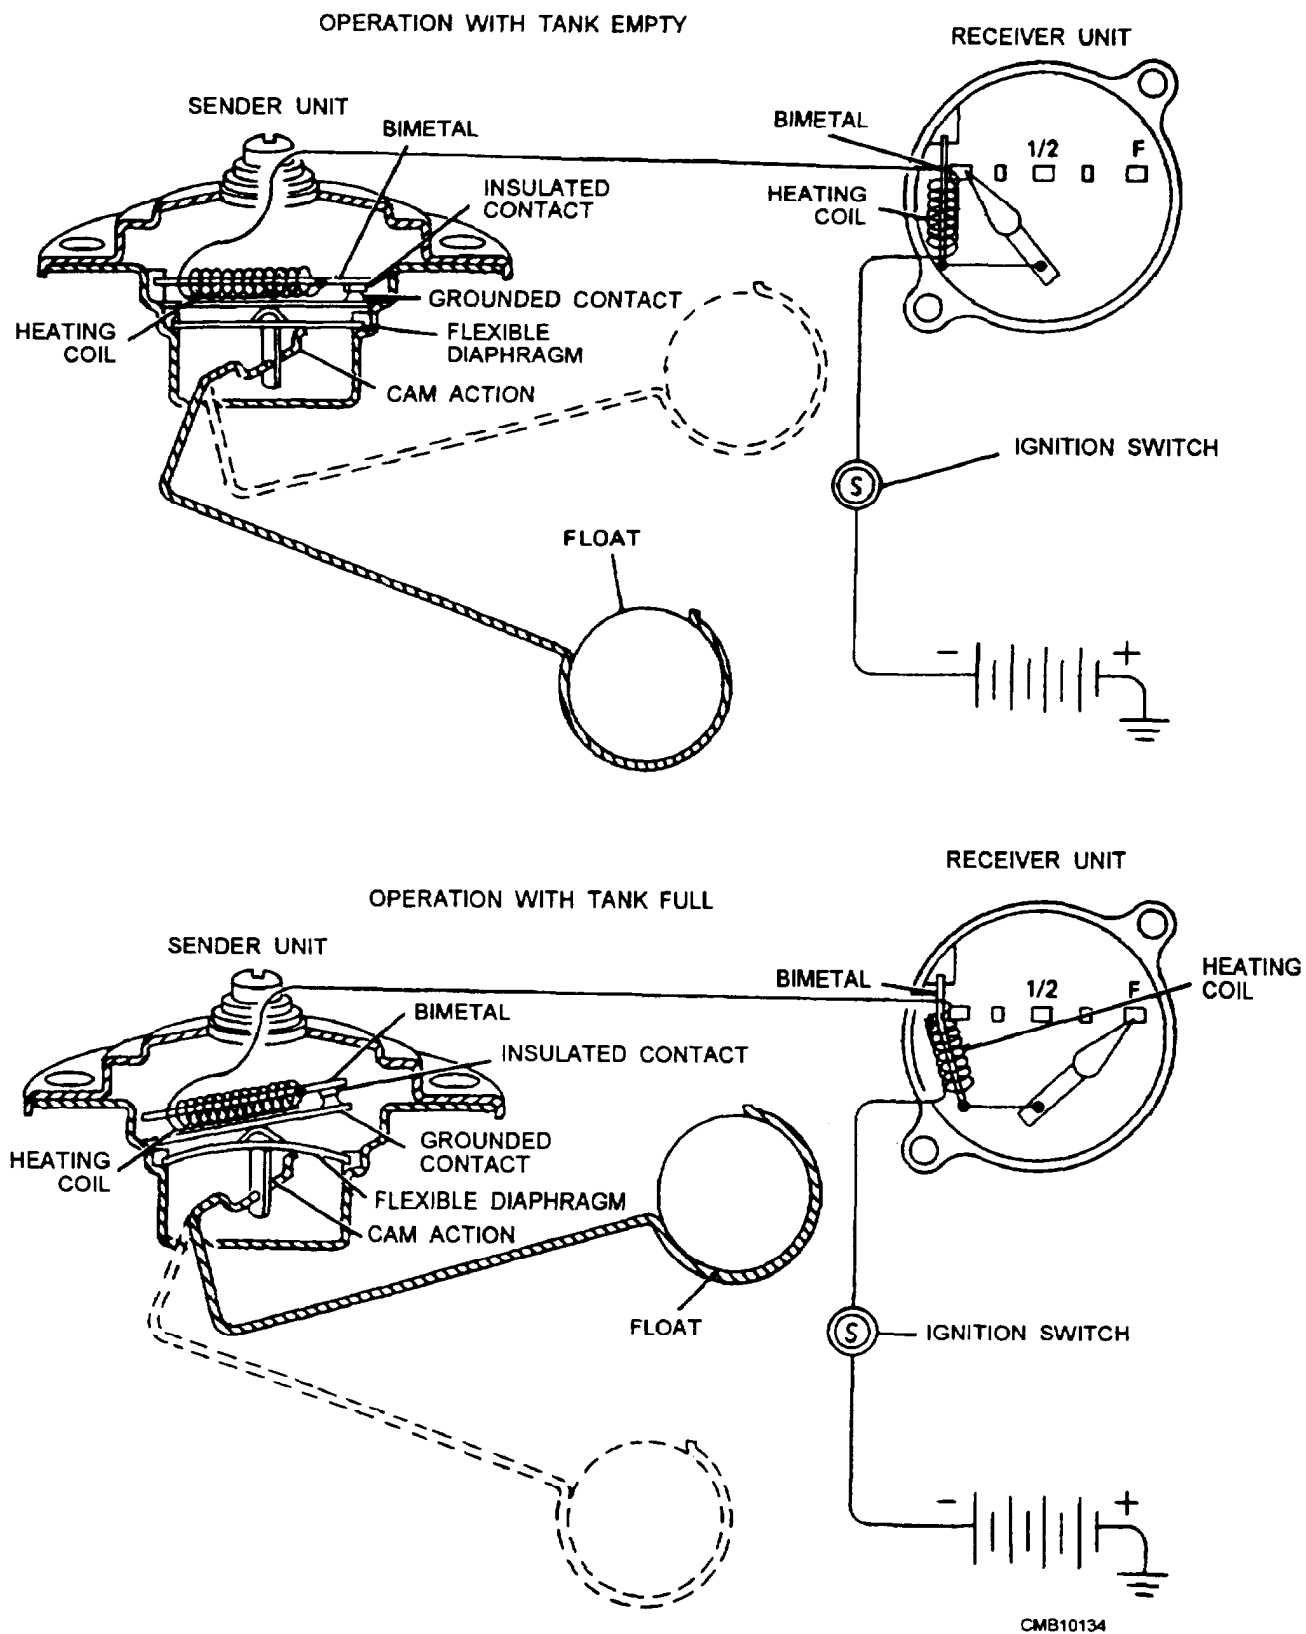

Figure 4-5.—Thermostatic fuel gauge: self-regulating.
2. Thermostatic Gauge (fig. 4-5). It has a sending unit similar to the magnetic system. The sending unit has a float and sliding contact that moves on a resistor. As the fuel level in the tank changes, the position of the contact changes on a rheostat winding, varying circuit resistance and resulting current flow. When the fuel is low in the tank, most of the resistance is in the circuit and very little current can flow. As the tank is filled, the float moves up and the sliding contact cuts most of the resistance out of the circuit. This action increases current flow and as the current flows through the heater coil in the gauge on the instrument panel, the current heats the thermostat. The thermostatic blade bends because of the heat. This moves the needle to the FULL mark. As the fuel level in the tank drops, resistance